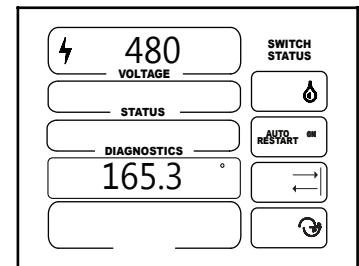

Figure 31-3
5. Access the current pivot position again and record the current position displayed at the bottom of the screen to the nearest tenth of a degree as position B. See figure 31-3.